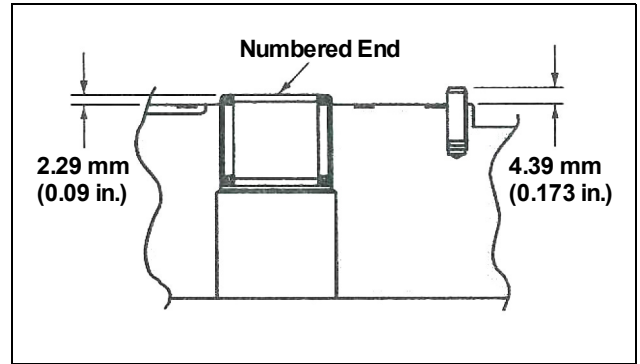

Figure 5-90. Endcover Inspection
- Check the bearing (press fit) in endcover. If needles remain in cage, move freely, and setting is at the dimension shown in Figure 5-90., removal not required.
- Check roll pin in endcover. If tight and set to the dimension shown in Figure 5-90., removal not required.